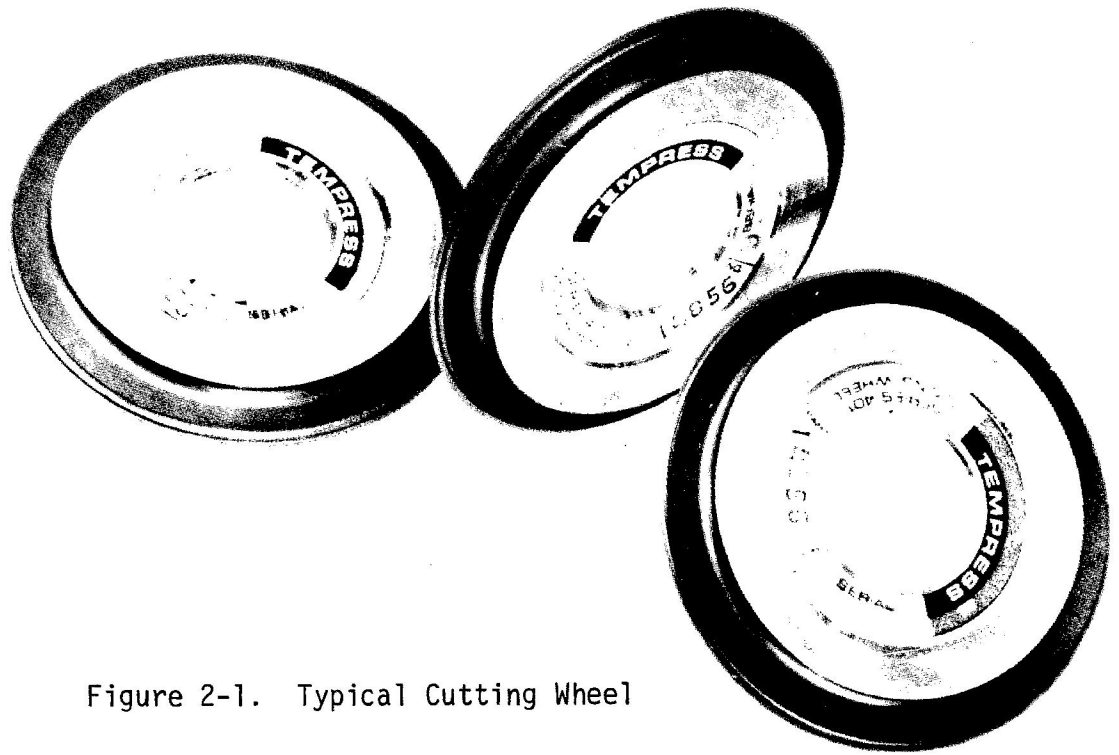

Figure 2-1. Typical Cutting Wheel
- b. Blade Thickness. Thickness of the blade part of a cutting wheel. Dimension A on Figure 2-1. Measured in mils.
- g. Exposure. The distance that the blade protrudes from the hub. Also called 'blade length'. Dimension B on Figure 2-1. Measured in mils.
Mounted blades are made by directly plating a nickel alloy mixed with diamond chips on a hub. Figure 2-1 shows details of a mounted blade. The small edge (dimension B) is the actual cutting part of the blade. Some characteristics of this type of blade are: